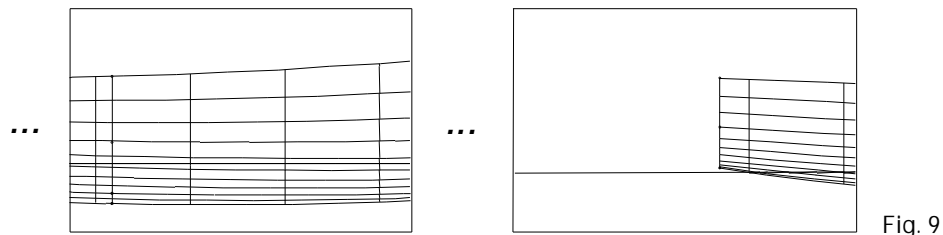

Fig. 9
- 5 **Repeat.** By clicking successively, you can move the camera along your enlarged view of the boat and in a number of pans examine the whole length of the boat in detail (Fig. 9).